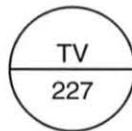

Figure 63. Instrument Tag
2. Determine the measured variable and function of the device using the instrument tag in figure 63.